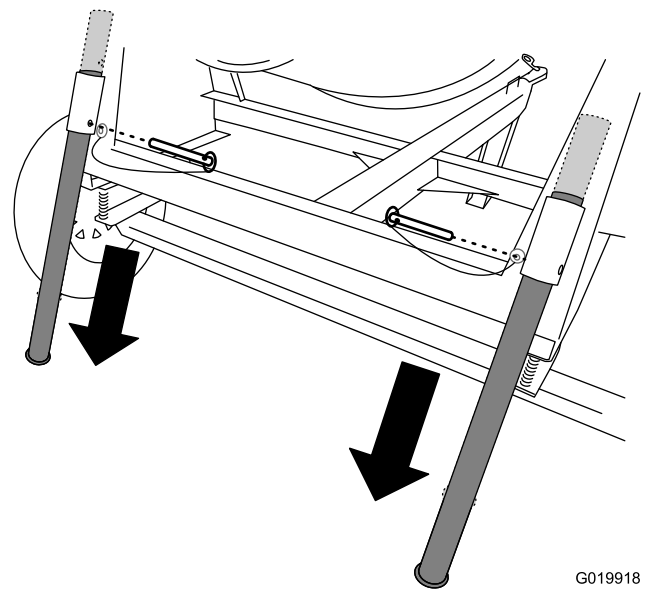

Figure 29
1. Pull the clevis pin out from one of the rear stabilizer legs and the bracket (Figure 29).
2. Slide the stabilizer leg down in the bracket and align the pin hole of the bracket with the upper hole in the stabilizer leg (Figure 29).
3. Push the clevis pin through the hole in the bracket and the stabilizer leg (Figure 29).